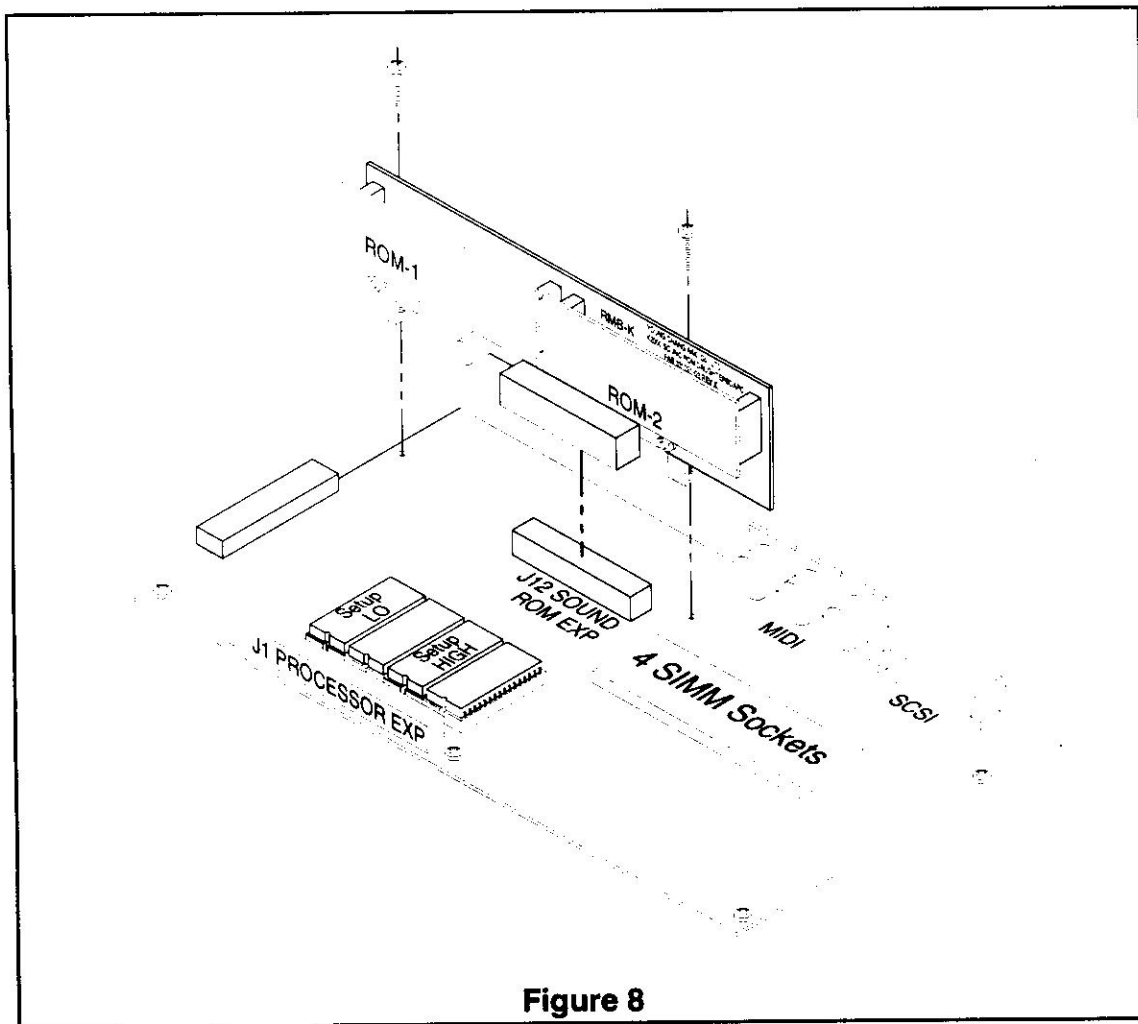

Figure 8
9. See Figure 8. Push the RMB-K Daughter Board, with the both ROM boards installed, back onto J12, the "SOUND ROM EXP" connector. The side of the RMB-K Daughter Board with the ROM board on it should be facing connector J1, the 64 pin connector labeled "PROCESSOR EXP".